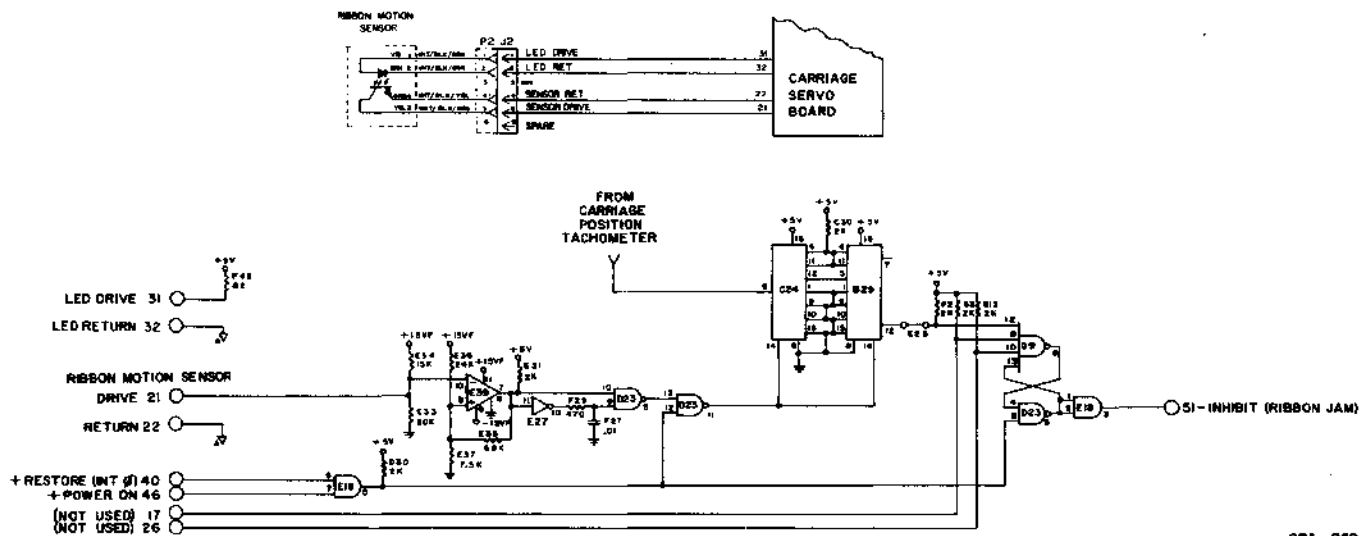

Figure 2-25. Ribbon Motion Sensor
2.6.6.6 Ribbon Motion Sensor (RMS) [See Figure 2-25]
Referring again to Figure 2-25, transistor D48 is shown as switch S2, while transistor F63 is shown as switch S3. Turning these two transistors on establishes a current path from the +15 volt supply through D48, resistor C53 (R), the drive motor, and through F63 to the -15 volt supply.